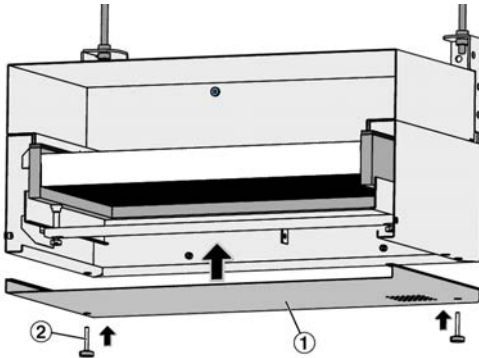

Fig. 6: TFM assembly diffuser face
- ▶ Set the diffuser face (Fig. 6/1) onto the filter casing and fix it with the knurled screws (Fig. 6/2).